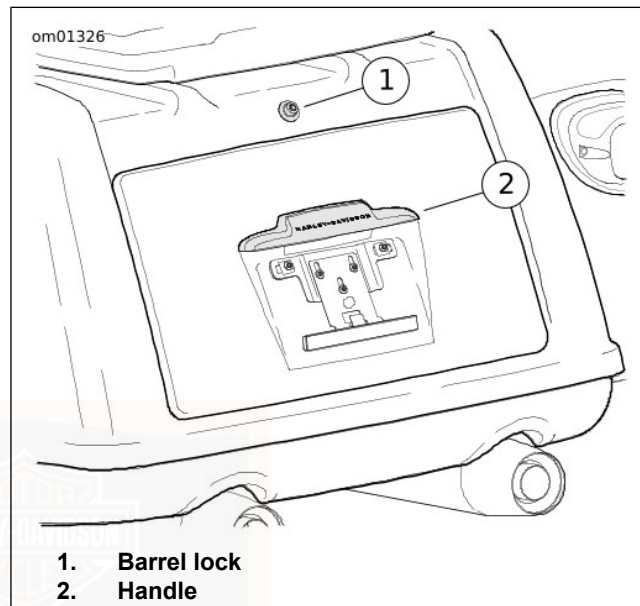

Figure 33. Trunk (typical)
2. See Figure 33. Push in the barrel lock to unlatch door. Pull handle to open trunk door.